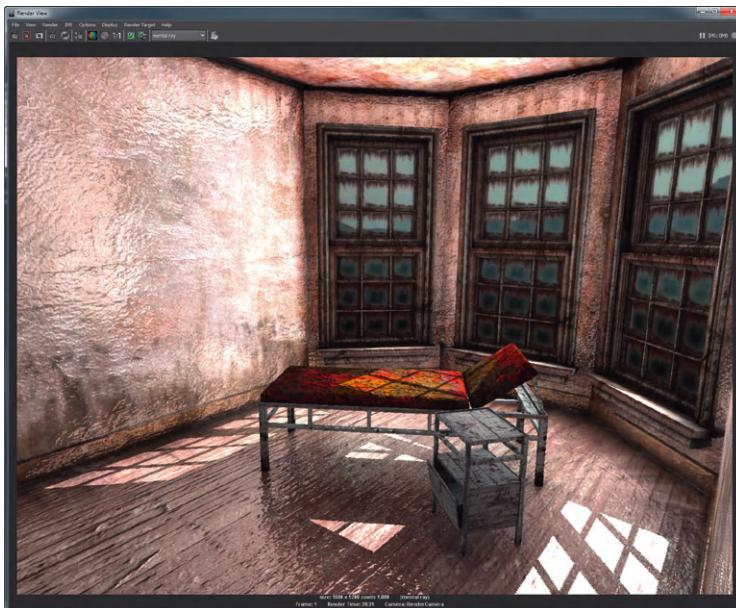

FIG 7.38 Default Phongshader on the walls.
Step 22: Change the shader type of the Walls_Mat and name it again. The easiest way to do this is select the walls, and then in the Attribute Editor go to the tab that is the material. There, the Type can be changed to Phong (or whatever). Notice that when this is done though, it renames the material. Be sure to rename the material to something like Walls_Mat. Take a quick render to view the disastrous results (Fig. 7.38).
Phong, Phone E, and Blinn are three shader types that add specular highlights to a material. However, it also automatically turns on reflections. This suddenly means everything in the scene looks like it was made of tinfoil. The effect isn't as bad in Fig. 7.38 as it could be because of the normal map that is applied (which breaks up the reflection); however, it's still clear that something isn't right.